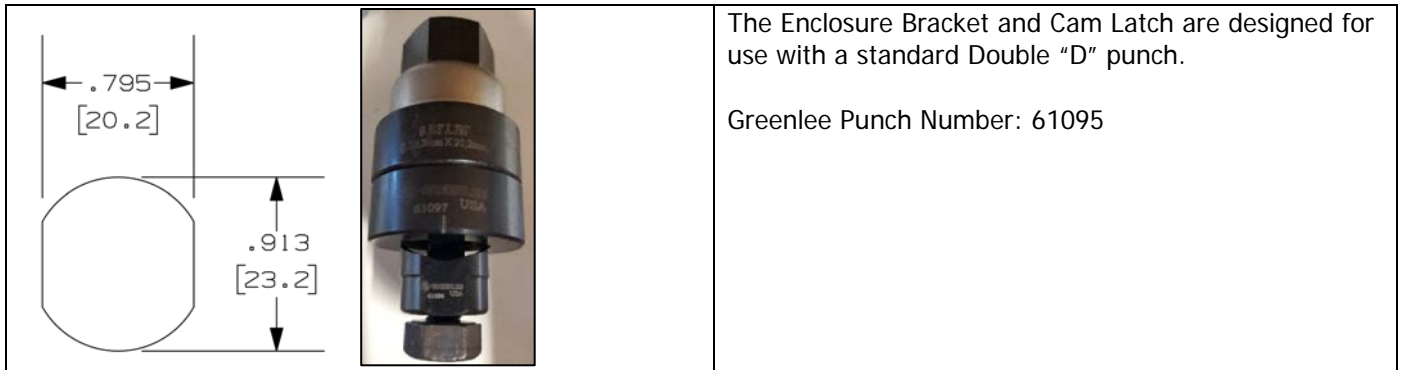

Figure 4 – Punch Knockout
1. Locate position for the knockout hole by measuring 5-1/8 inches from the surface where the cabinet door seats to the desired mounting location on the side of the cabinet (when installing the VS-ACK-EXT kit refer to VS-ACK-EXT install instructions for proper hole distance). Use Double "D" knockout (not included) to punch hole. Ensure that the punch is positioned properly. The punch flats shall be vertical (see **figure 4**).